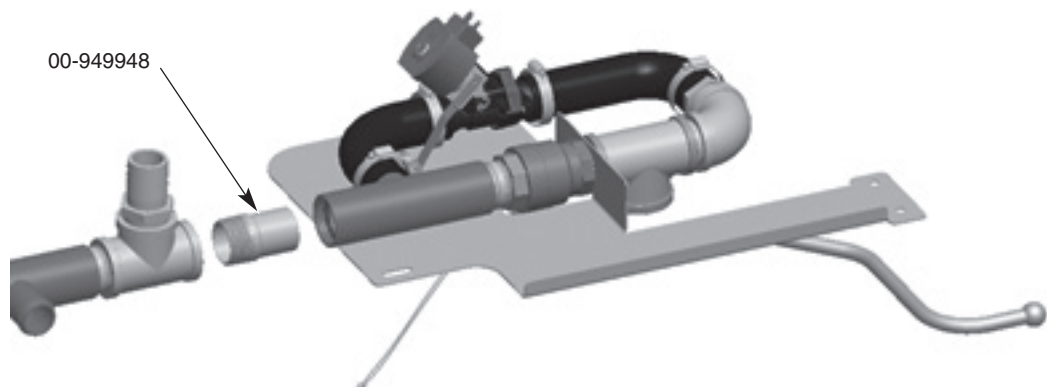

Fig. 15
6. Remove turned down threaded piece (00-949948) from drain tee at the unload end and replace with NPT pipe plug shipped with the machine. 00-949948 can be discarded. See Fig. 15.